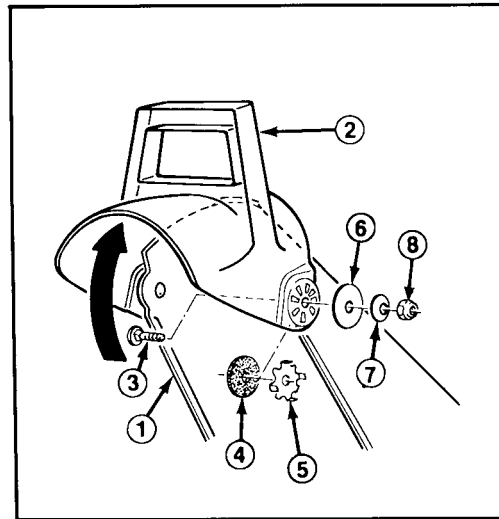

Figure 12
1. Pivot deflector upward and back until deflector passes over lip on top of chute (Fig. 12).
2. Secure left side of deflector to discharge chute using carriage bolt, rubber washer, friction plate, flat washer, Belleville washer and locknut. Make sure rubber washer and friction plate are positioned between chute and deflector and friction plate tabs fit into holes in deflector. See Figure 12 for proper installation sequence of parts.